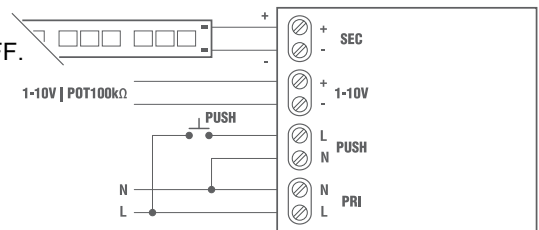

Fig.1
-**push-button (PUSH 230Vac)** (Fig.1)
-**1-10V signal** (Fig.1)
-**100Kohm potentiometer** (Fig.1)